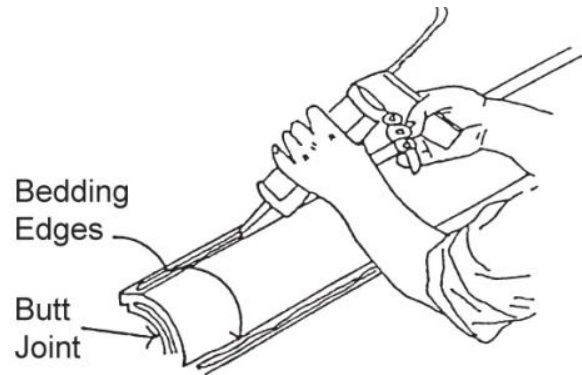

FIGURE 1
- For large profiles (8" face or larger) apply 1/4" bead of DegaBond 948 to the top and bottom bedding edges on the back side of molding (*see Figure 1*) or apply DegaBond 948 to inside wall and ceiling marks.